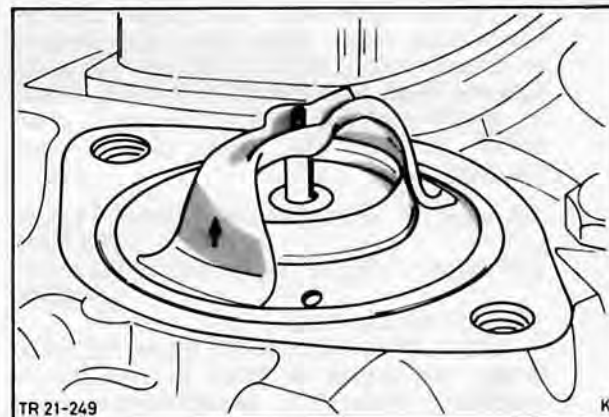

Fig. 126. Remove thermostat
6. Detach cylinder head water elbow (2 bolts) and remove thermostat, Fig. 126. Disconnect exhaust pipe from exhaust manifold (2 nuts).